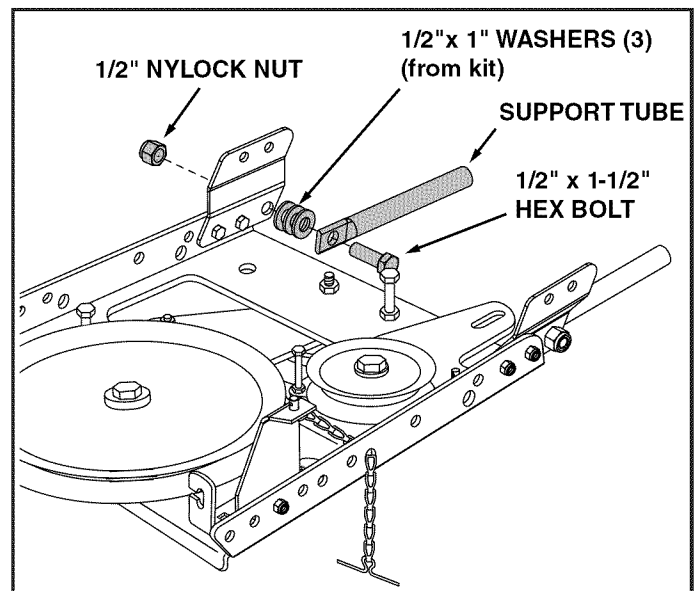

FIGURE 22
STEP 8: (SEE FIGURE 22)
STEP 1: (SEE FIGURE 22)